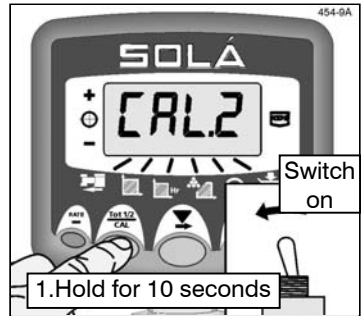

Figure 9a: View Hopper Maximum Quantity
2. Press  to select the  channel. The maximum quantity then appears with the first digit flashing (fig.9a). You can now release the  button.